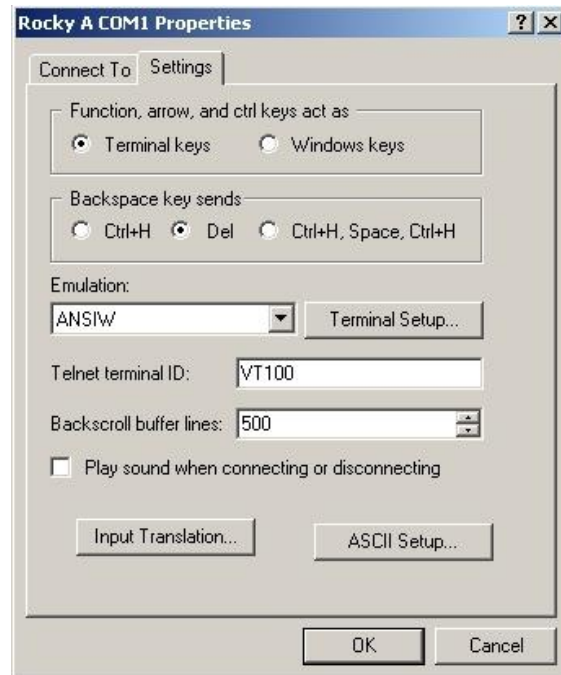

Figure 3 HyperTerminal Settings
6. [] Select the properties settings as shown in Figure 3: